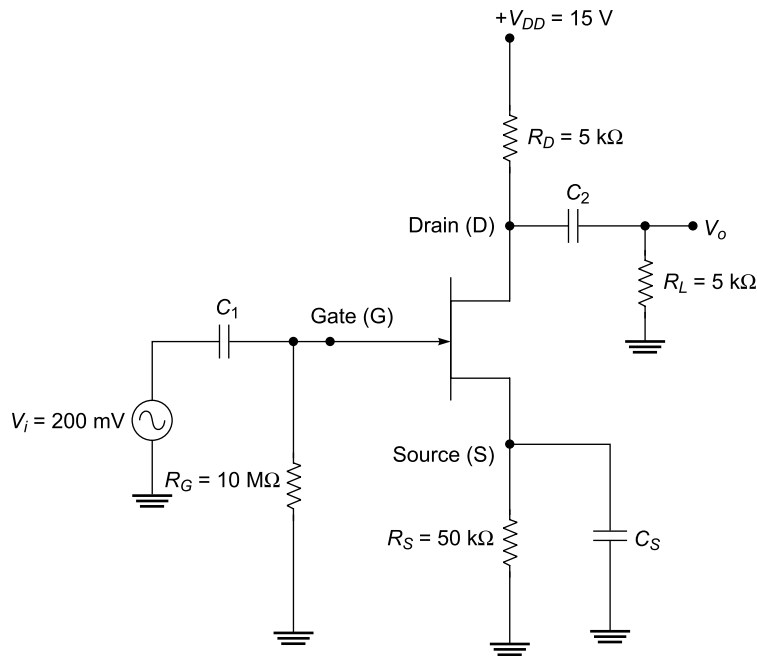

Fig. 1.82
1.16 Figure 1.82 shows a common source JFET amplifier circuit. Determine the value of output voltage gain of the amplifier, if $g_m = 3000 \mu\text{S}$, and $I_D = 5 \text{ mA}$. The effect of drain resistance is neglected.